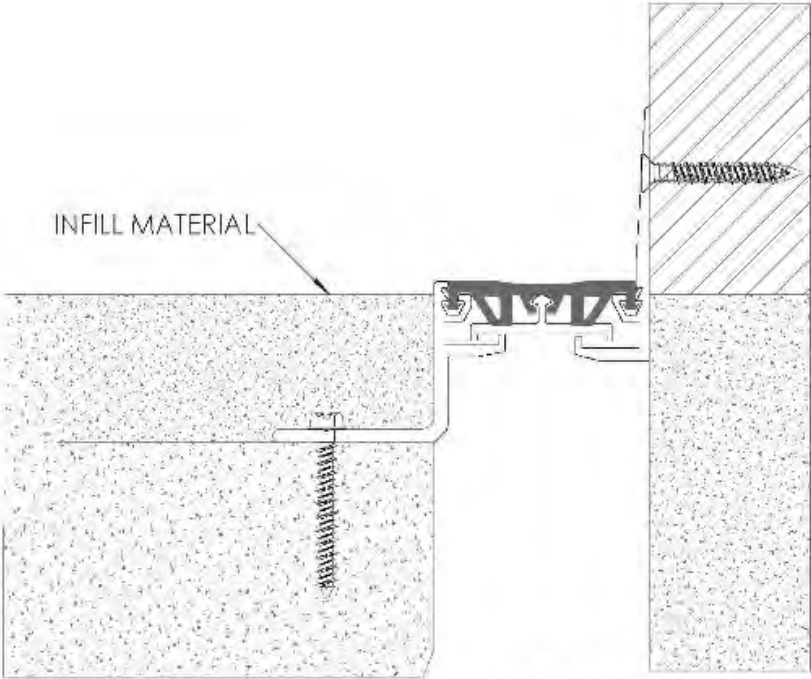

FIGURE 6
- 6. Protect the exposed surface of the expansion joint, then using an appropriate infill material (by others), fill in the blockout level with the surrounding floor. **See Figure 6**